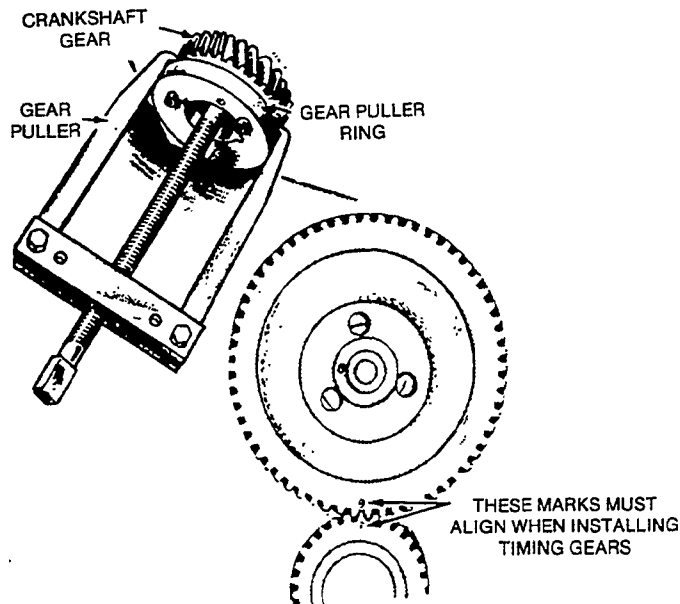

FIGURE 9-15. TIMING GEAR REMOVAL AND INSTALLATION
2. Attach the gear pulling ring using two 10-32 screws (Figure 9-15). Tighten the screws alternately, until both are tight.